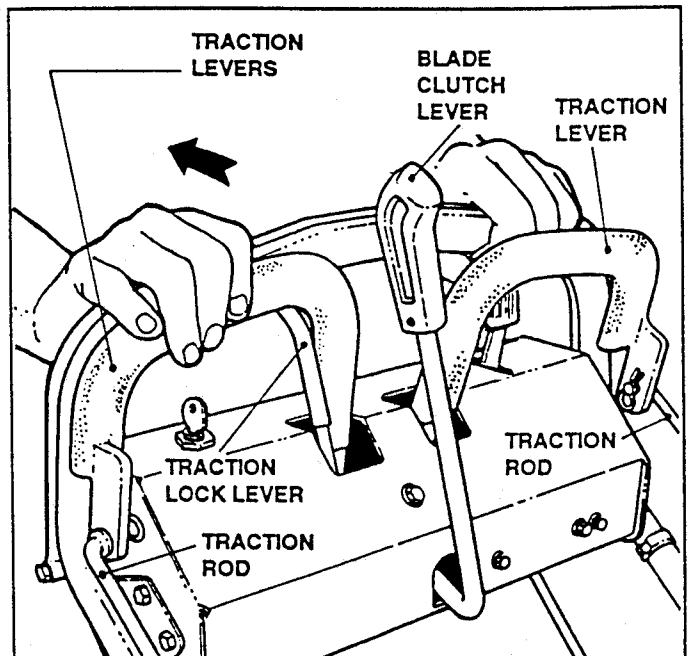

FIGURE 39
2. Squeeze both Traction Levers firmly against handlebar, allowing the Traction Lock to release. Simultaneously move both Traction Levers forward, allowing tension to be removed from Traction Rods. See Figures 39 and 40.